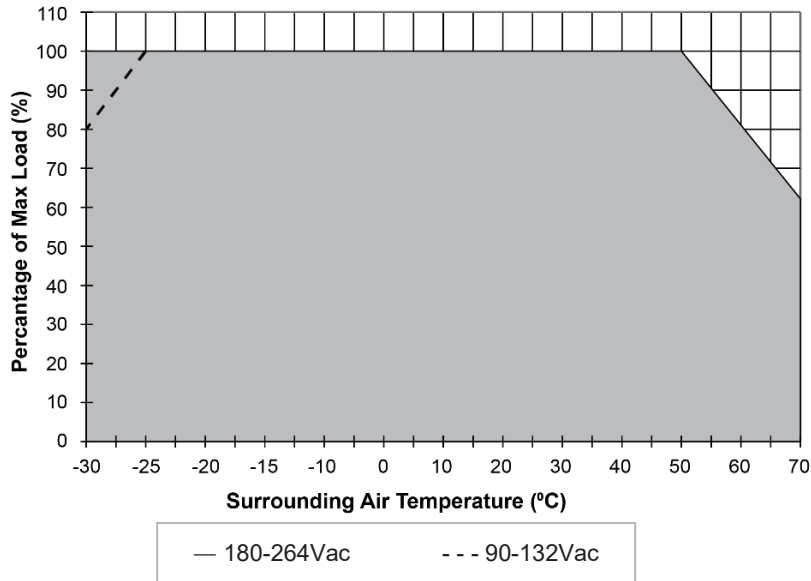

Fig. 1 De-rating for Horizontal Mounting Orientation
1. Power supply components may degrade, or be damaged, when the power supply is continuously used outside the shaded region, refer to the graph shown in Fig. 1 & Fig.2.